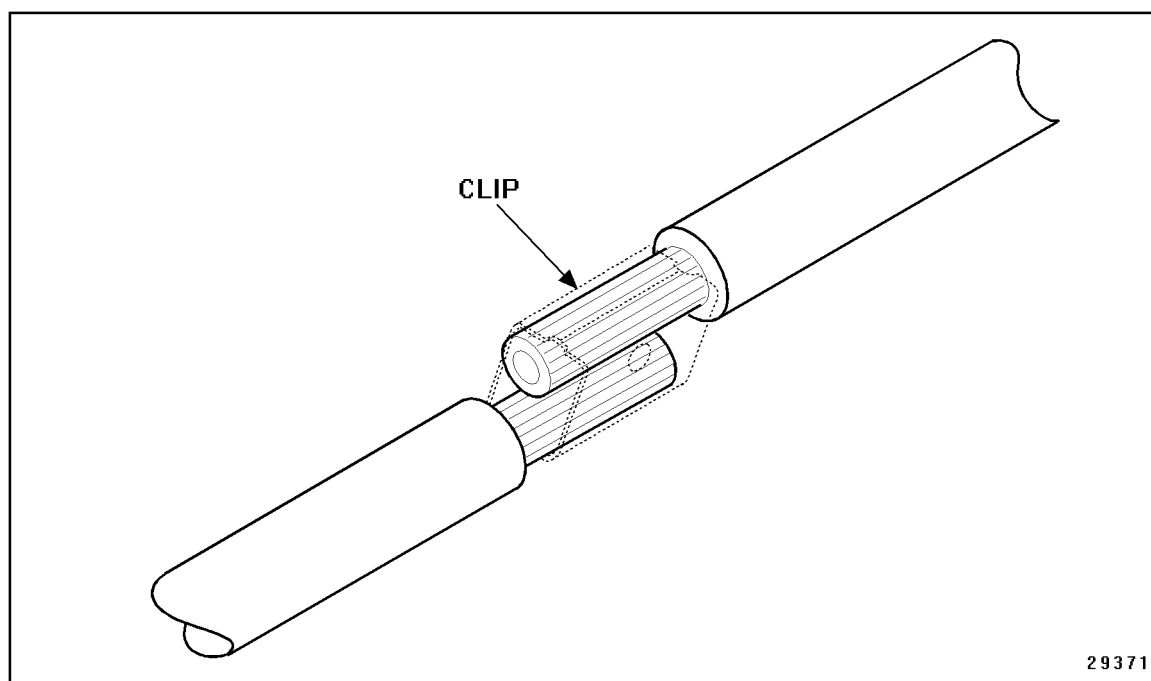

Figure 3-60 Securing the Leads With a Clip
2. Secure the leads with a commercially available clip and hand tool. See Figure 3-60.